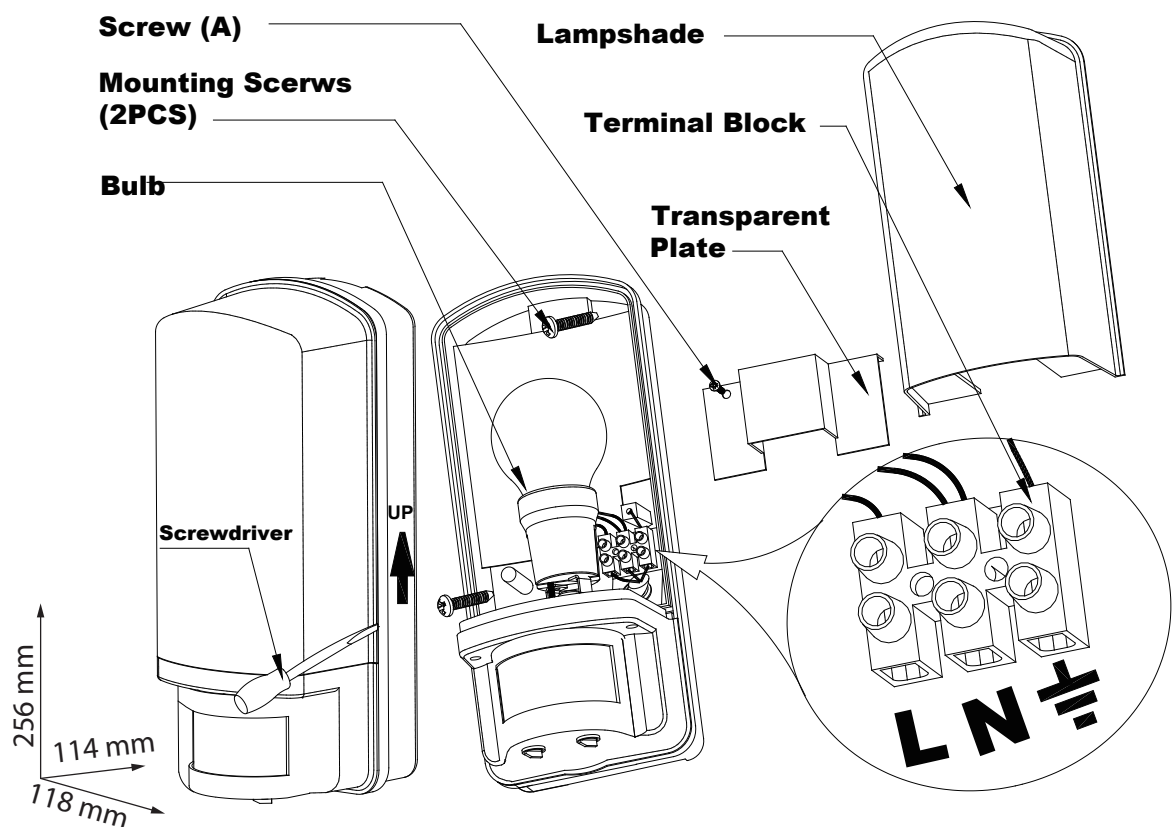

Fig. 2 Mounting and Wiring to Treminal
Installation the bulkhead light, please referring to the Fig.2
5. Unscrew the Screw (A) and remove the Transparent Plate.
7. Connecting the main power wires to the Terminal Block (see the relative symbols—Fig.2), the Cable must pass through the Wiring Rubber Gasket.